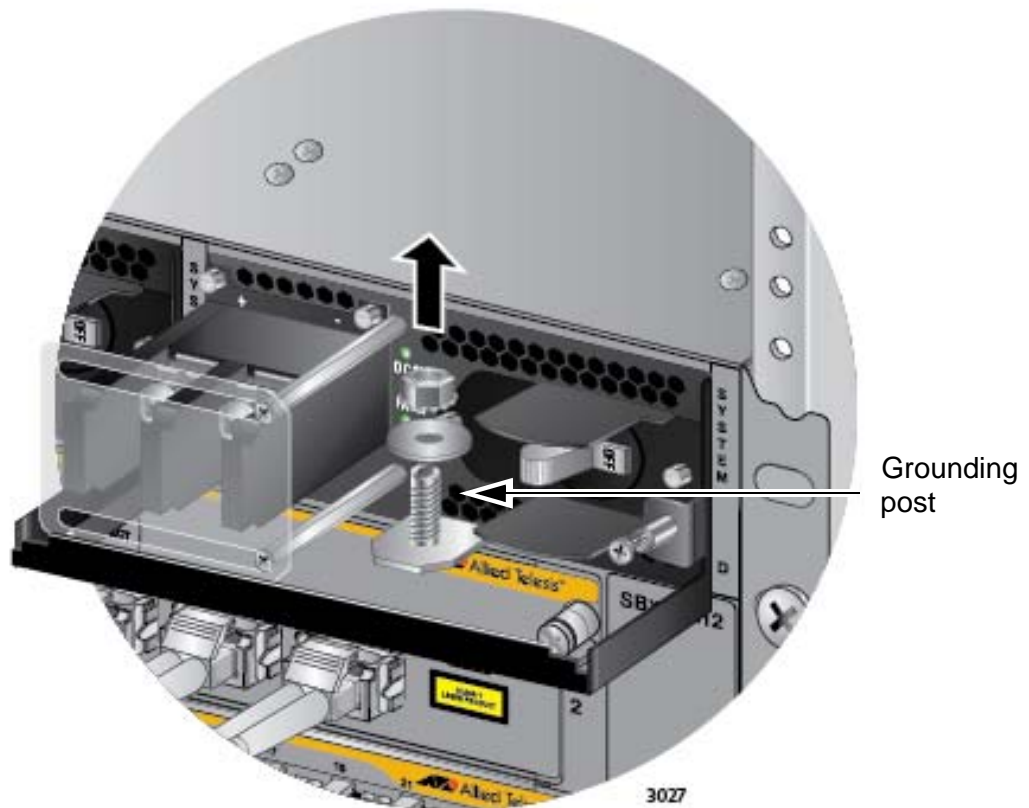

Figure 99. Removing the Nut and Washer from the Grounding Post
3. Use an 8 mm wrench to remove the grounding post nut and washer, shown in Figure 99, from the power supply.
2. Use an 8 mm wrench to remove the grounding post nut and washer, shown in Figure 99 on page 163, from the grounding post on the power supply.